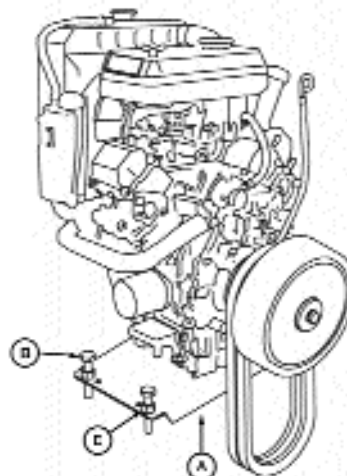

Fig. 1
1. Loosen the four bolts(A) underneath the engine mounting plate. (refer to fig. 1)
2. Loosen Jam nuts(E) and Loosen engine plate adjustment bolts (B) until belt tension is relived. (refer to fig. 1)